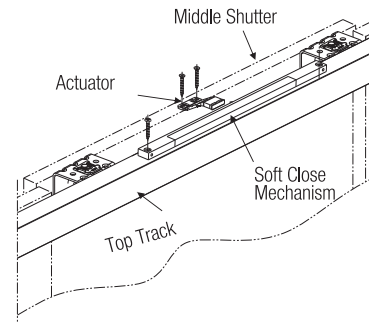

Fig. 10
- 7.4. Fit the Soft Close for Middle Shutter as shown in Fig 10.